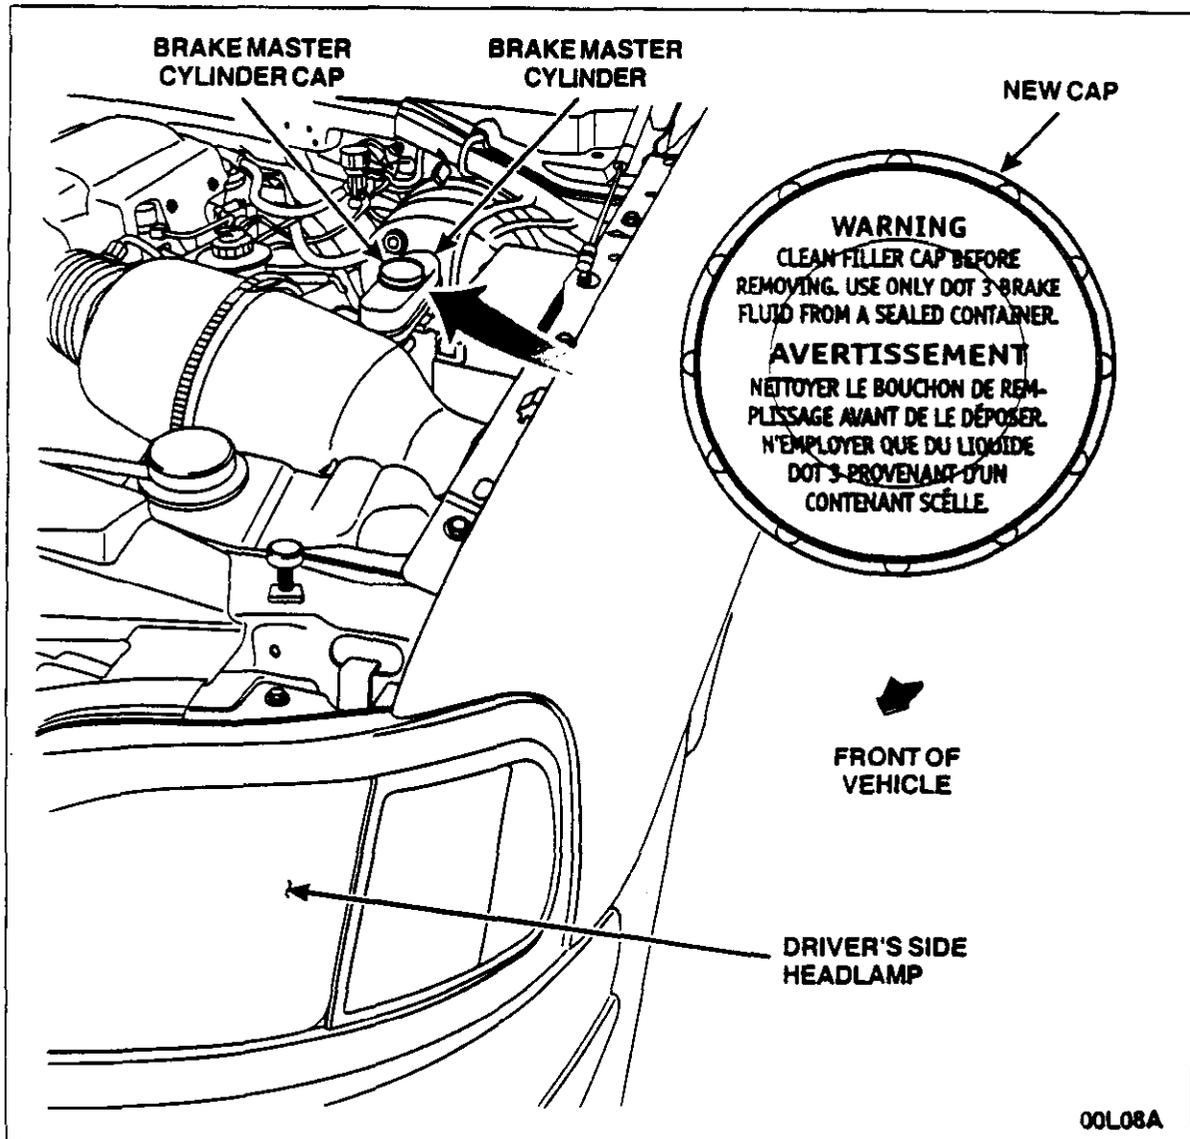

FIGURE 1
1. Remove and discard the brake master cylinder cap. See Figure 1.